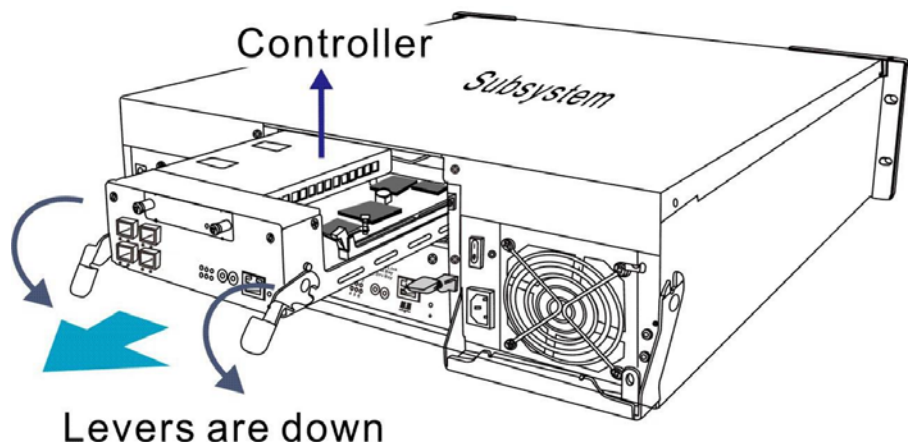

Figure 5-2: Removing Controller
**Step 4.** *Remove the controller module* by pressing down the two (2) levers. The controller module will automatically ease out of the controller module bay. (See *Figure 5-2*)